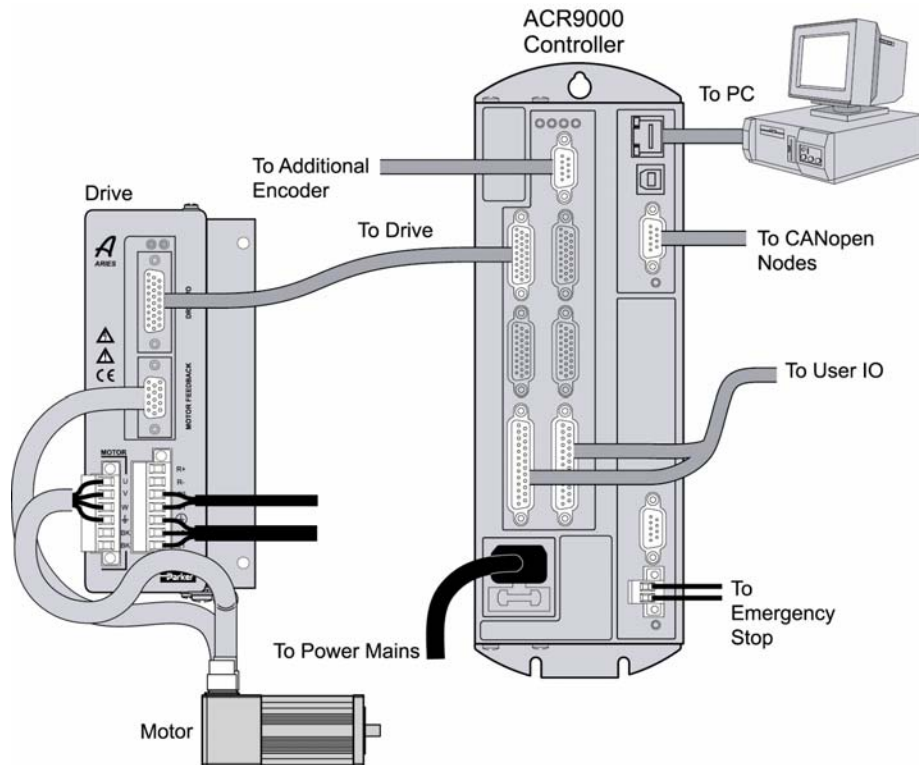

Figure 18 Overview of System Installation
Figure 18 illustrates the components necessary for installation of the ACR9000 Stand-Alone Controller. It shows the ACR9000 connected to an Aries drive and a personal computer (PC). The recommended installation process, mounting guidelines, and cable installation procedures follow.